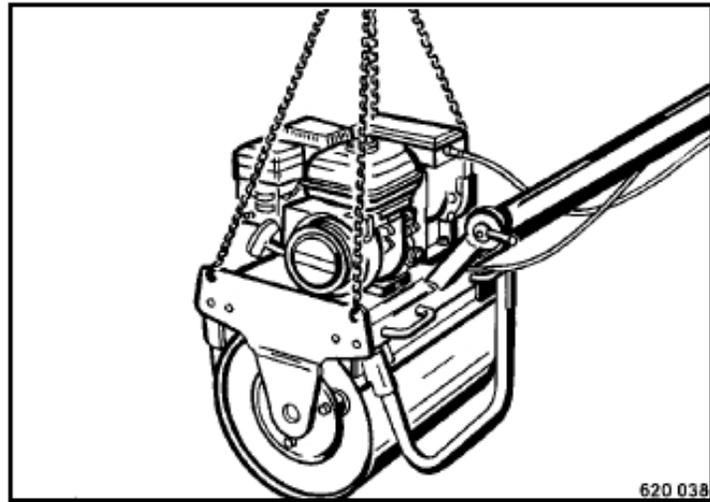

Fig. 43
- | Lift the machine slightly up as shown in (Fig. 43).